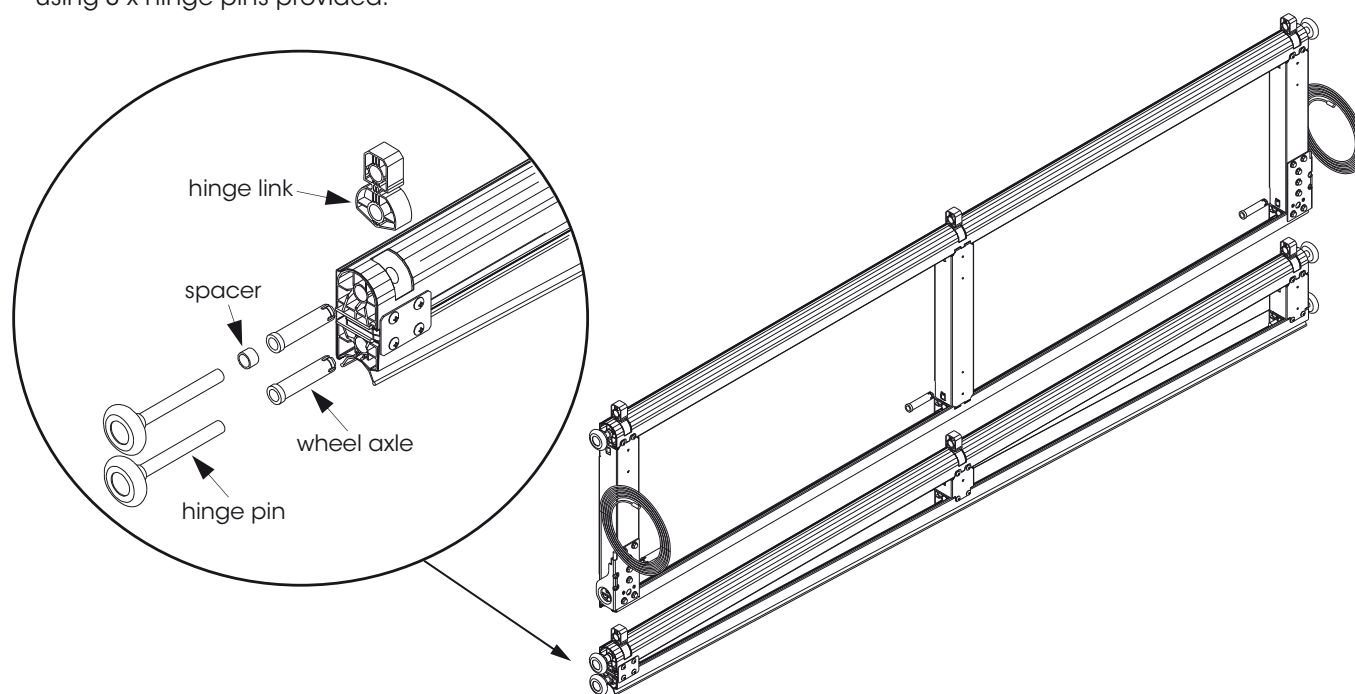

Fig: 5.4.1
- a) Assemble the bottom panel taking note that there are no wheels or weather strip on the bottom panel, these are both on the taper panel. Fig 5.4.1.
- b) Assemble the tapered panel as shown in insert of Fig 5.4.1. The 2 spacers required are to be cut 10-12mm long from a white link pin and fitted one to each side as shown.